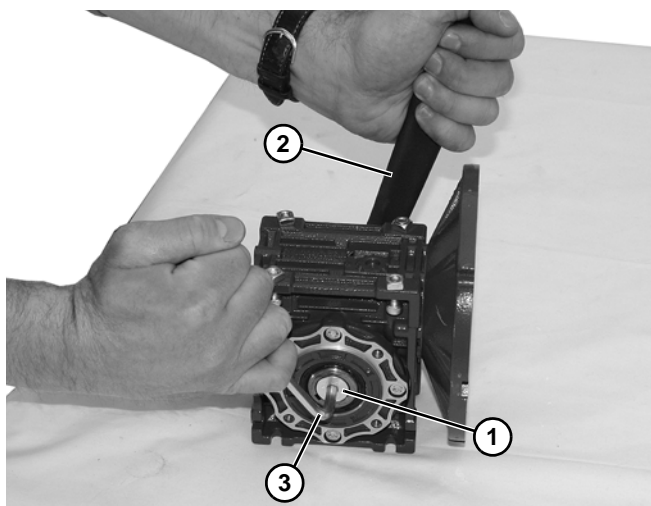

Figure 22
2. Loosen driveshaft bolt (**Figure 22, item 1**).
3. Hold the driveshaft with a wrench (**Figure 22, item 2**) as shown to keep shaft from turning, while removing screw with hex wrench (**Figure 22, item 3**).
8. Hold the driveshaft with a wrench (**Figure 22, item 2**) as shown to keep shaft from turning, while installing screw with hex wrench (**Figure 22, item 3**). Tighten cap screw to 100 in-lb (11.5 Nm) for 42CZ or 350 in-lb (39.5 Nm) for 52C, 63B5 and 71B5.